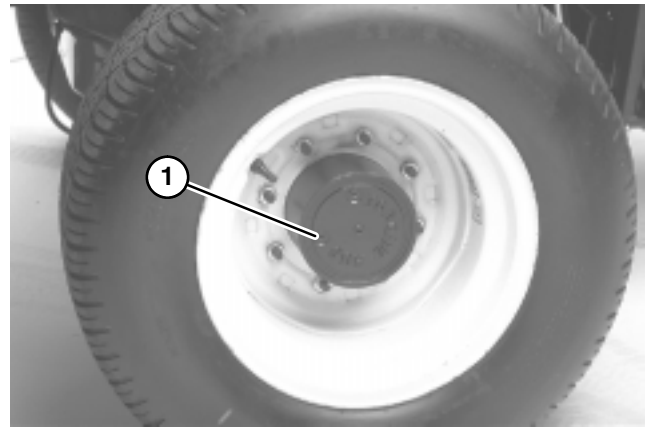

Figure 18
1. With machine on level surface, position wheel so the check/drain plug (Fig. 18) is at either three or nine o'clock position.